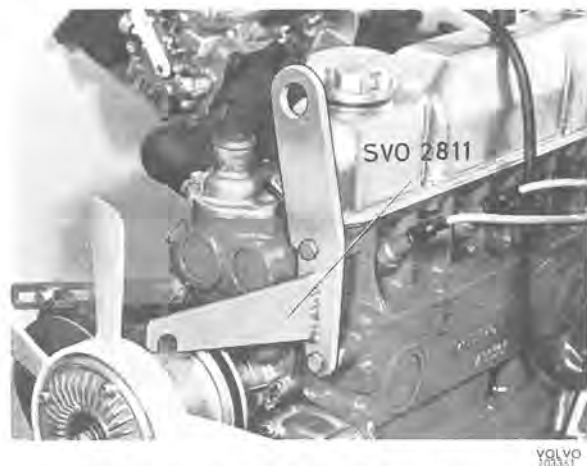

Fig. 2-13. Lifting lug SVO 2811 on engine front end
10. Fit lifting lug SVO 2811 to the front end of the engine as shown in Fig. 2-13 and lifting arm SVO 2812 on the engine rear end as shown in Fig. 2-14. Prop up under the vehicle.
26. Fit lifting lug SVO 2811 to the front end of the engine and arm SVO 2812 to the rear of the engine (see Figs. 2-13 and 2-14). (Note that SVO 2812 should be provided with a recess as described in a separate workshop bulletin.)